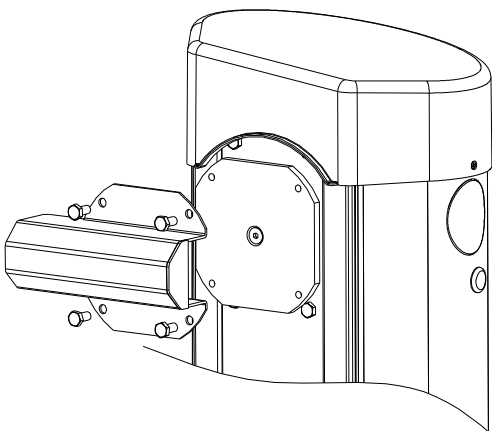

Fig. 5
- Fix down the bar holder bracket without wholly tightening down the screws (Fig. 5).